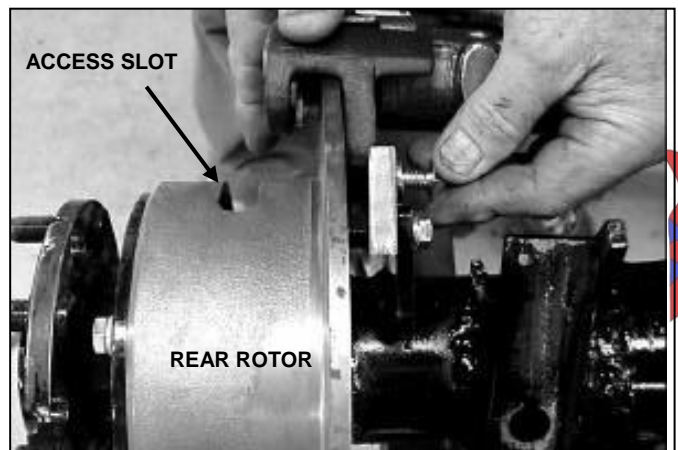

Figure 5-7
4. Remove the four 3/8" lock nuts from the inside face of the axle housing flange accessible through slots in the brake rotor. See Figure 5-7.